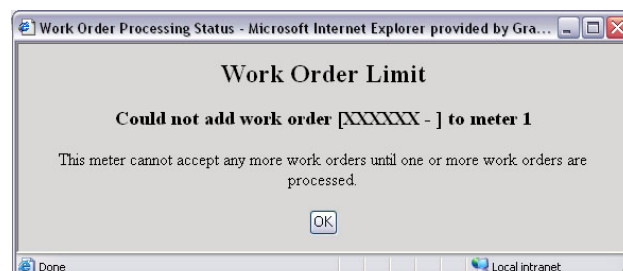

FIG. 56 Work Order Limit
1. **Work Order Limit** See FIG. 56. This message appears when the PC has five open work orders associated with the meter being addressed. No RF communication is attempted when this message appears. At least one work order will need to be processed or removed before a new one can be loaded.